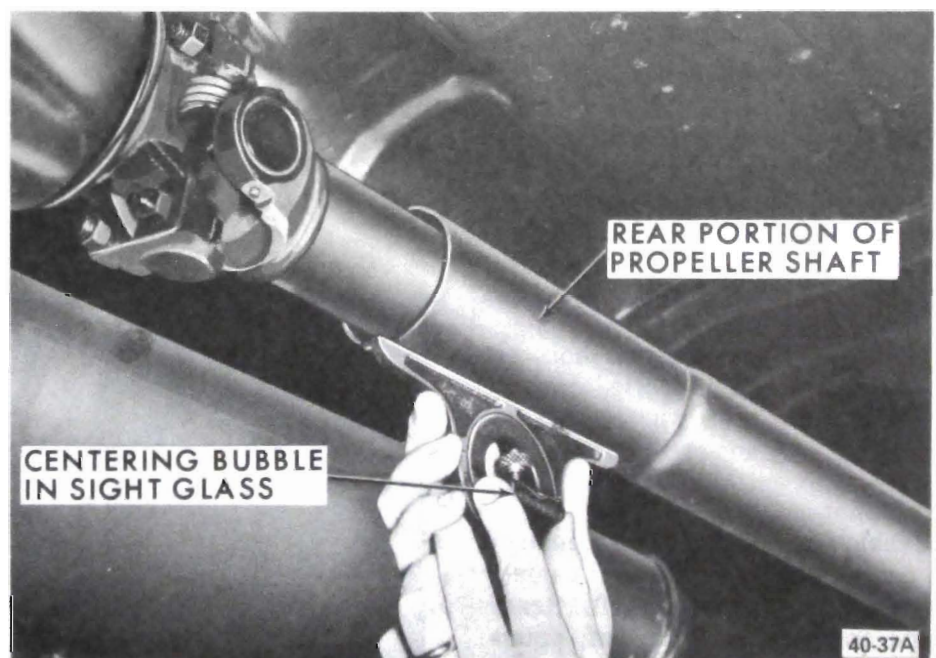

Figure 40-58 - Measuring Angle at Rear of Propeller Shaft
2. Hold protractor firmly against rear end of propeller shaft. See Figure 40-58. Center bubble in sight glass and record measurement in degrees ().